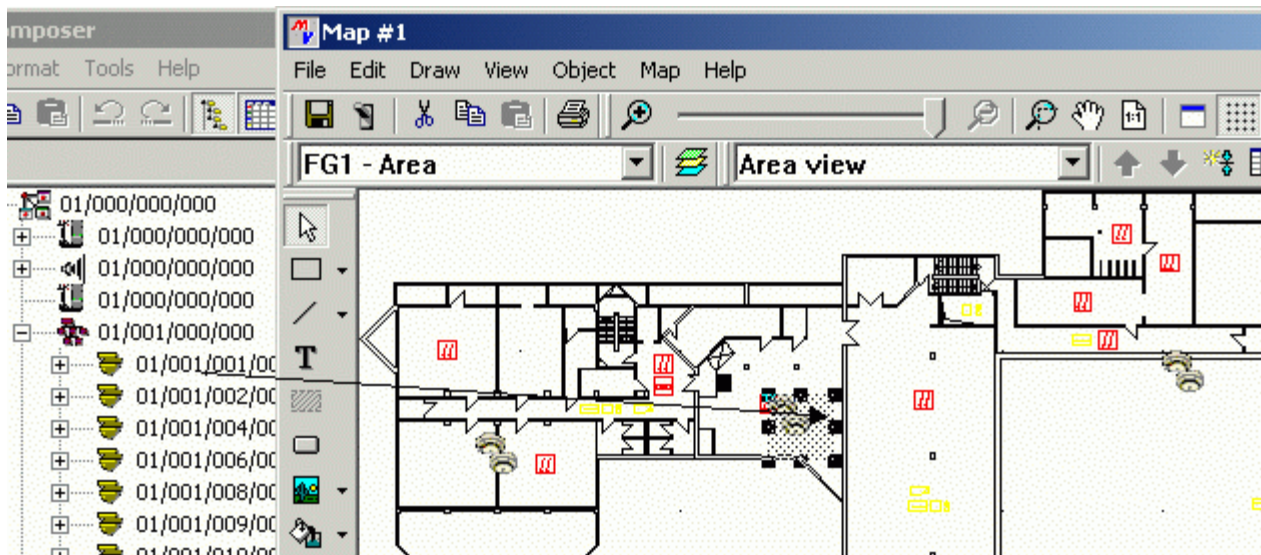

Fig. 10 Drag and drop, set default object size
4. Drag points from the tree, one at a time, and drop onto the correct position on the map. (See Fig. 10.)